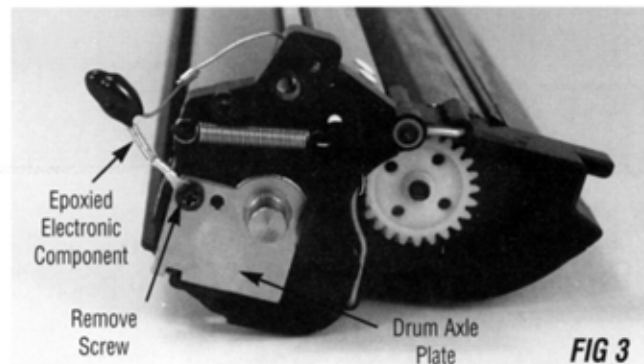

FIG 3
1. Remove the screw holding the epoxied electronic component to the drive gear drum axle plate. (Figure 3)